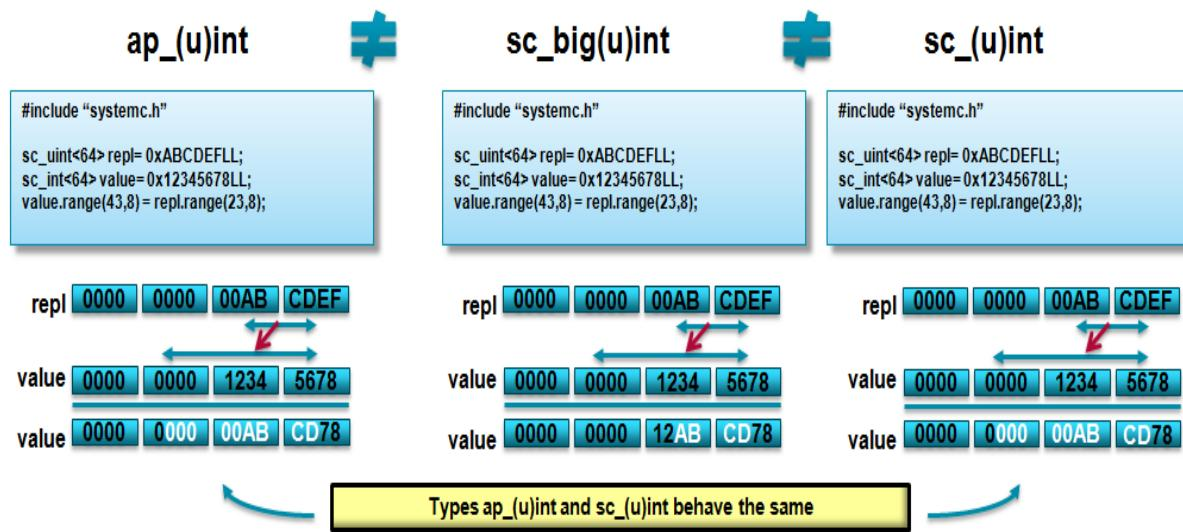

Figure 3-15: Range Operation Differences
- There are differences in behavior when the range operation is used and the size of the range is different between the source and destination. Figure 3-15 shows an example of this operation for both Vivado HLS and SystemC types and a summary is provided below.